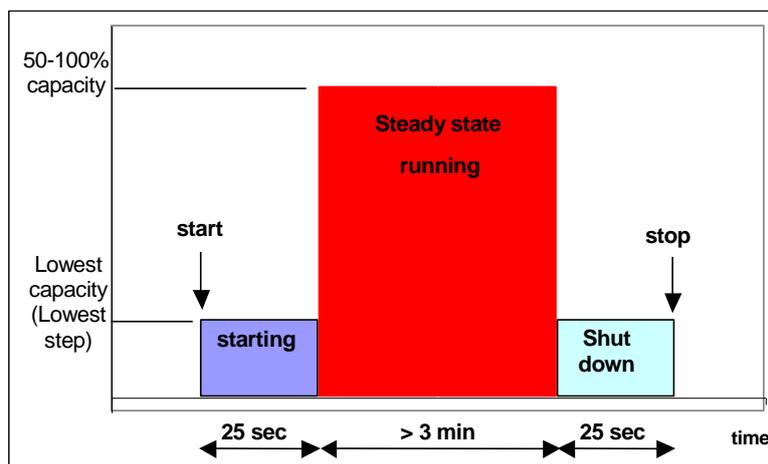

Fig. 28: starting and stopping the compressor;
To limit the peak current when starting, the electric motors are started in the part-winding configuration, or alternatively with the windings connected in the star configuration (see chapter 6: 'Electrical devices'). This, however, means also a drop in the starting torque, and as a result the resisting torque needs to be reduced in order to start the compressor without excessively overloading the electric motor. For this purpose, SRMTEC recommends to start the compressors at the minimum capacity step, see Fig. 28. Concerning the PS3 series compressors, distinction needs to be made between the step and the stepless configuration.
For this reason, so as to stop and re-start the compressor at the minimum capacity step the valve (14) must be energized for around 25 seconds before switching off the compressor, see Fig. 28. Moreover the valve (14) should be kept energized during the compressor standstill periods.
The starting and stopping procedure indicated in Fig. 28 has to be followed for all the screw compressors, both in the step and in the stepless version, as this avoids noisy stopping due to the temporary reverse rotation with high mass flow.